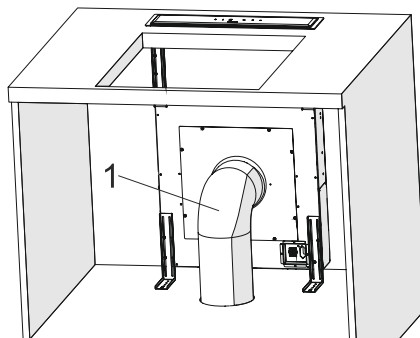

Fig. 19
9. ➔ Make the air outlet pipe connection (Fig. 19).